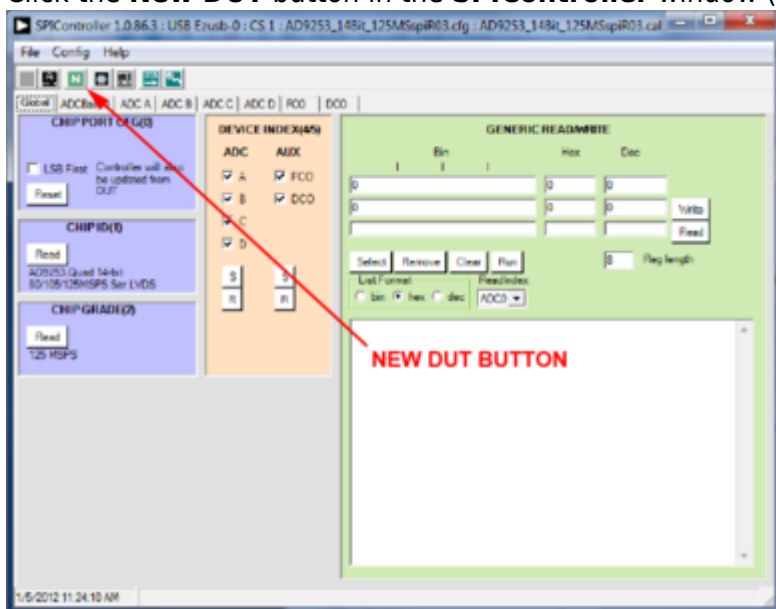

Figure 8. SPI Controller, New DUT
- Click the **New DUT** button in the **SPIController** window (see Figure 8)